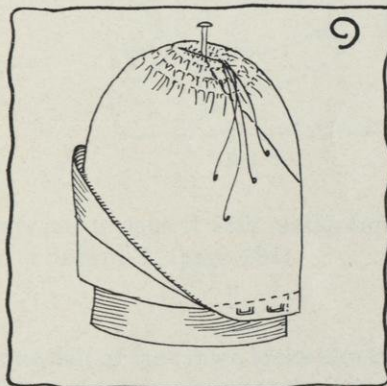

FIG. 9.
(1) Slip the shirred crown over the block (and over the crinoline foundation if one is used) so that the front, back, and side white stitches are directly over front, back, and direct sides of crown block. Put one pin in the center tip to hold it in place (see Figure 9).
(2) Put staples or thumb tacks in the bottom of crown at the headsize lift, at front, back, and sides and once in between each (see Figure 9). You may have to remove some staples in crinoline in order to put tacks in outer crown (if crinoline was used).